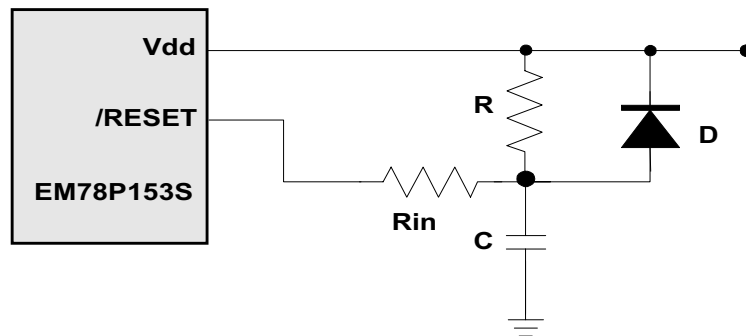

Fig. 17 External Power-Up Reset Circuit
The circuit shown in Fig 17 implements an external RC to produce the reset pulse. The pulse width (time constant) should be kept long enough for Vdd to reach minimum operation voltage. This circuit is used when the power supply has slow rise time. Because the current leakage from the /RESET pin is about $\pm 5\mu\text{A}$, it is recommended that R should not be great than 40 K. In this way, the voltage in pin /RESET will be held below 0.2V. The diode (D) acts as a short circuit at the moment of power down. The capacitor C, will discharged rapidly and fully. Ri, the current-limited resistor, will prevent high current discharge or ESD (electrostatic discharge) from flowing to pin /RESET.